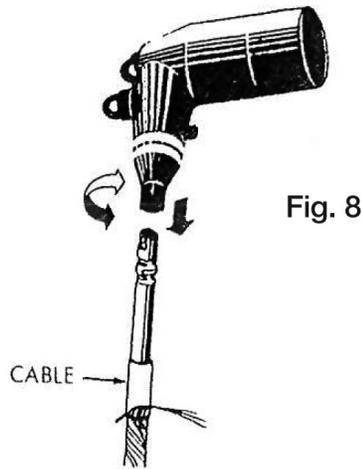

Fig. 8
- B. Slide the elbow onto the cable, using a back and forth twisting motion. The final seating of the elbow should align housing with the threaded portion of the lug. Wipe off excess lubricant. See Figure 8.